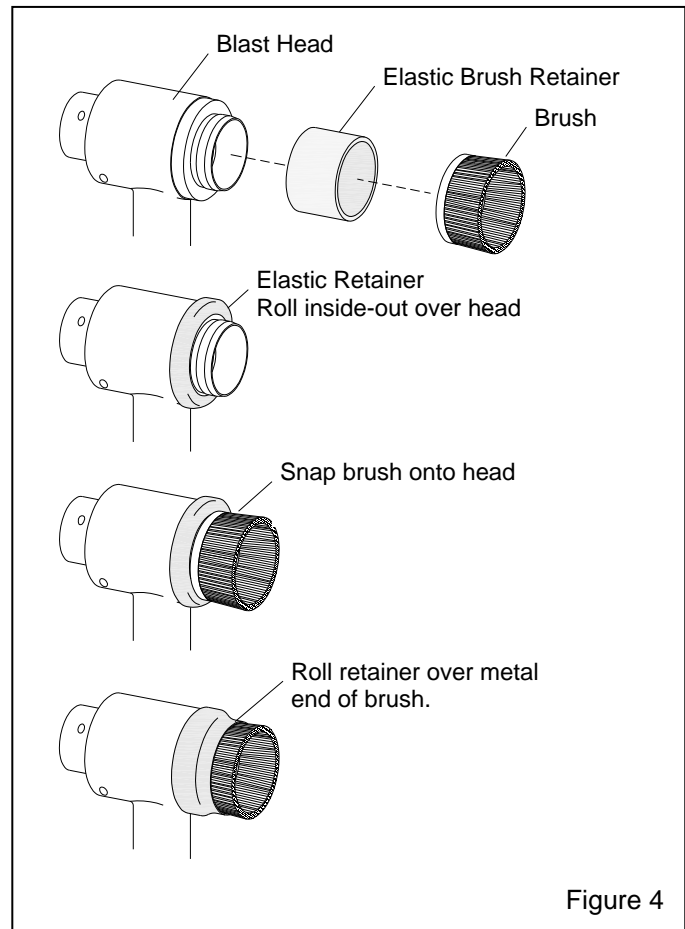

Figure 4
3.3 Select Brush and Attach to Head, Figure 4
3.3.2.3 Roll the elastic over the end of the brush to secure, as shown in Figure 4.